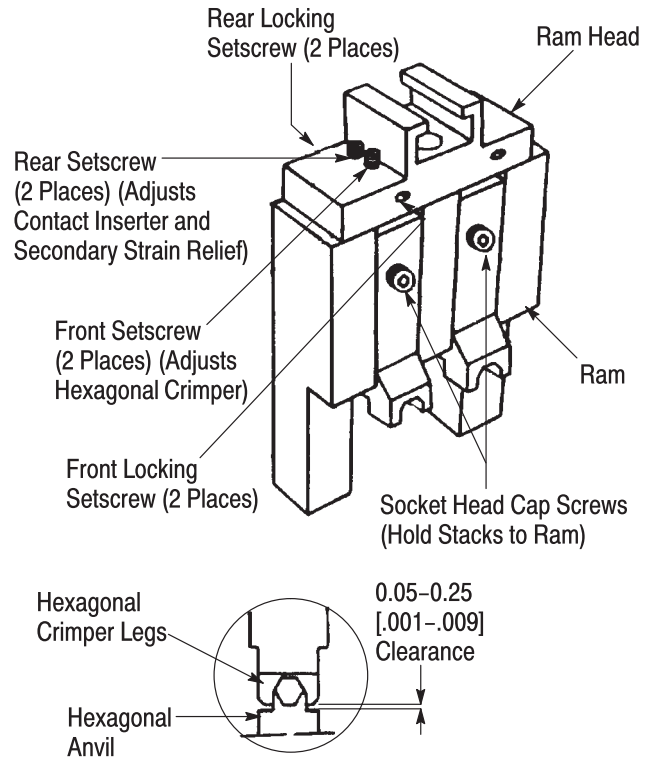

Figure 3
If adjustment is required to obtain proper crimp height, refer to Figure 3 and the applicable application specification, and proceed as follows:
3. Check the clearance between the hexagonal crimper legs and the hexagonal anvil with a piece of thin paper. Clearance must be within the dimensions given in Figure 3. If adjustment is required, slightly loosen the the socket head cap screws at the front of the ram and the front locking setscrews at the front of the ram head. Then rotate the front setscrews to adjust the hexagonal crimper.